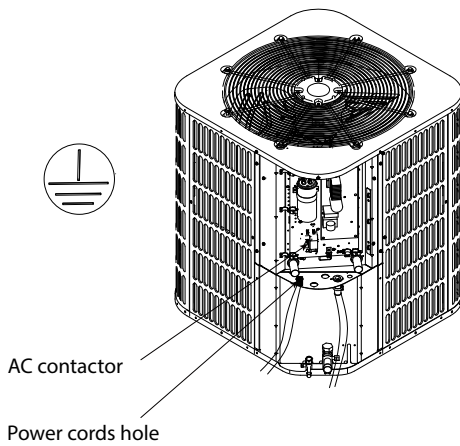

Figure 13-3
2. Firstly thread the power cords (L1, L2) and earth wire through the power cords hole. Secondly connect L1, L2 and earth wire to terminals of the AC contactor properly one by one. Finally fasten the pipe of the power cords and earth wire. Refer to Figure 13-3.